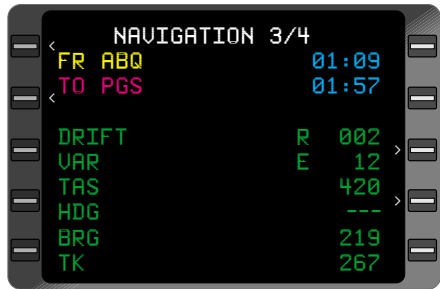

Figure 3-198
1. **NAV** Key - DEPRESS until **NAVIGATION** Page 3 is displayed. The heading field may appear as dashes. (Figure 3-198)